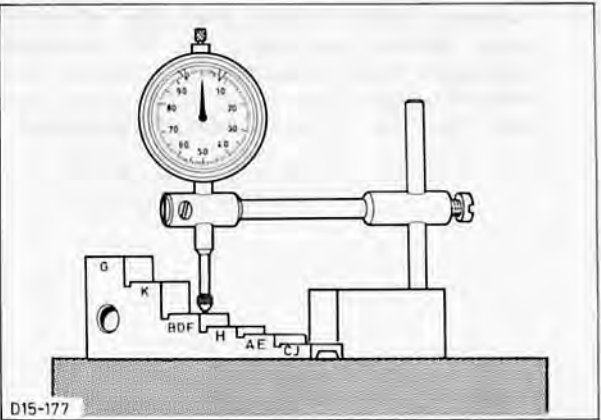

Fig. 38. Zero dial indicator
21. Remove dial indicator from holding fixture and mount in block. Locate mounting block with dial indicator on a ground surface and zero with the aid of the setting gauge as shown, Fig. 38.